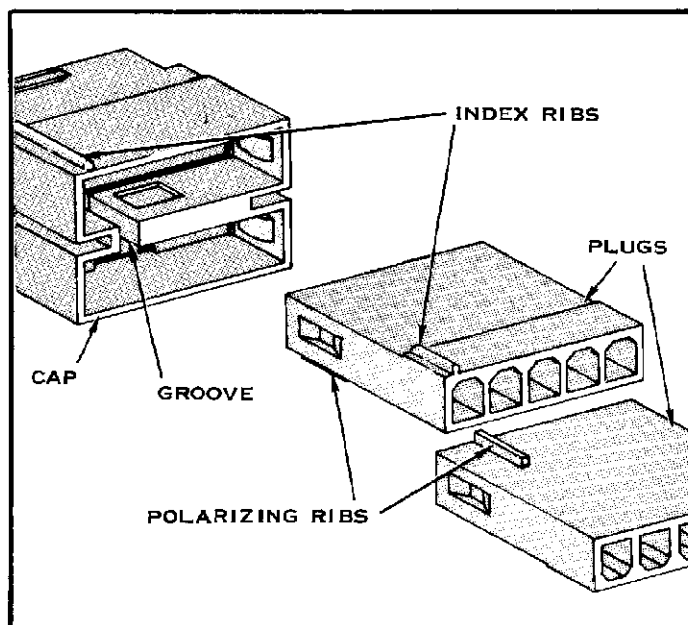

FIG. 3
Each Plug has a Polarizing Rib to insure proper mating. In addition, one Plug has an Index Rib for visual alignment. See Figure 3.
- Align the Index Rib on the Plug with the Index Rib on the Cap. Push the Plug into the Cap until it bottoms. Insert the Polarizing Rib on the second Plug into the groove in the Cap. Push the Plug until it bottoms. See Figure 3.